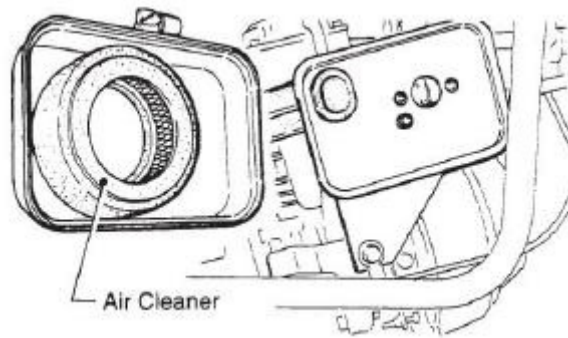

Figure 13 Engine Air Cleaner
- Lubricate the top element (yellow) with 2~5cc of engine oil SAE-30. Lubricate bottom element (gray) with 13~15cc of engine oil SAE-30 and completely squeeze out the excess oil from the element before installing. The air cleaner (Figure 13) on the engine side will hardly be contaminated, if it is, however after cleaning the element with kerosene, dip it in mixed oil consisting of 3 parts of gasoline and 1 part of engine oil. Then tightly squeeze outer primary element (sponge) and shake off well the inner secondary element before installing them.